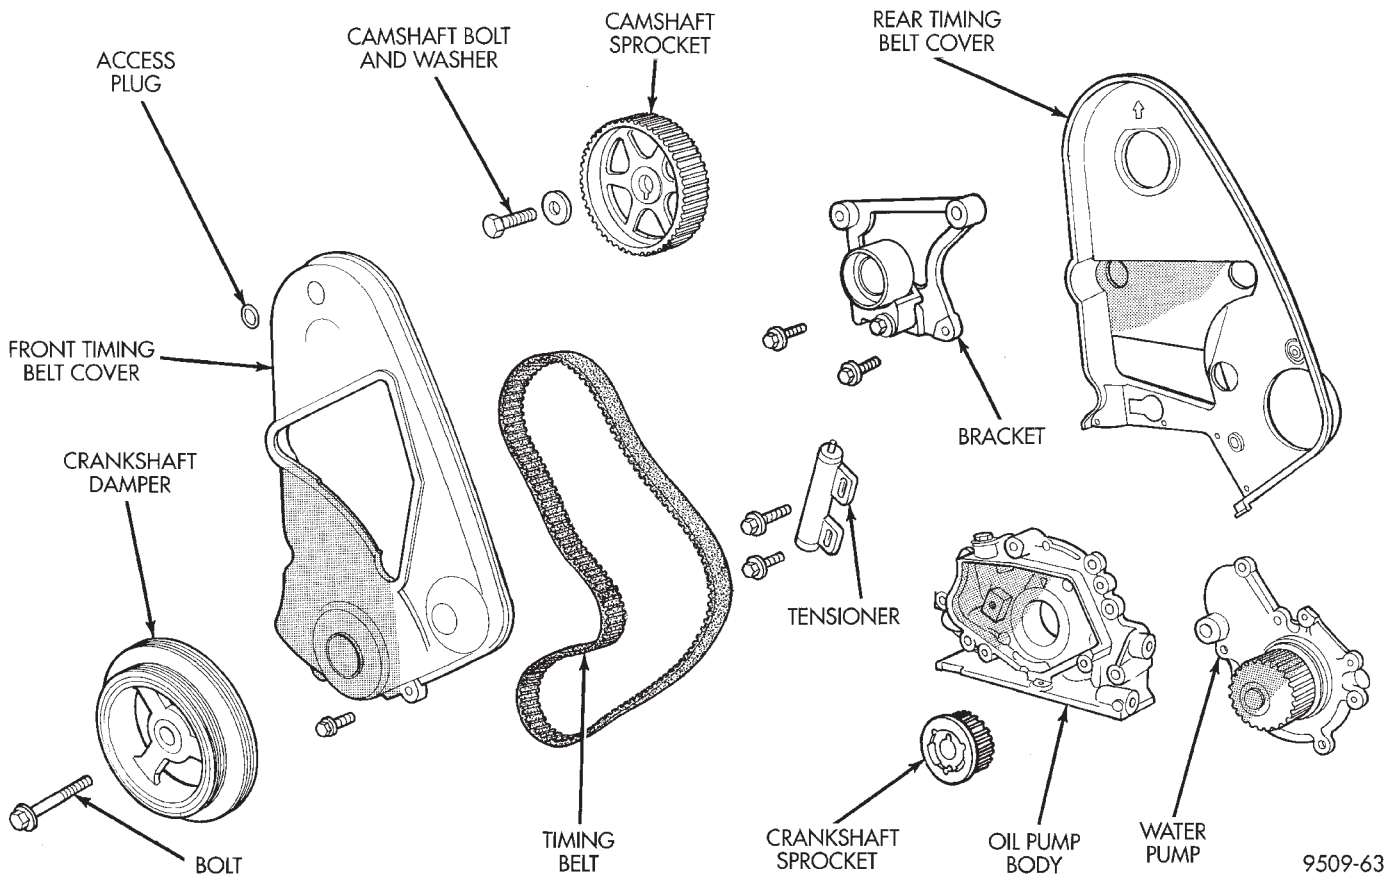

Fig. 57 Timing Belt System
- Remove the access plug from the outer timing belt cover (Fig. 57).